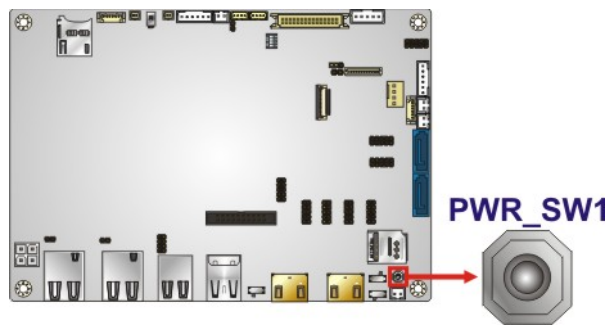

Figure 3-21: On-board Power Button Location
- CN Location: See Figure 3-21